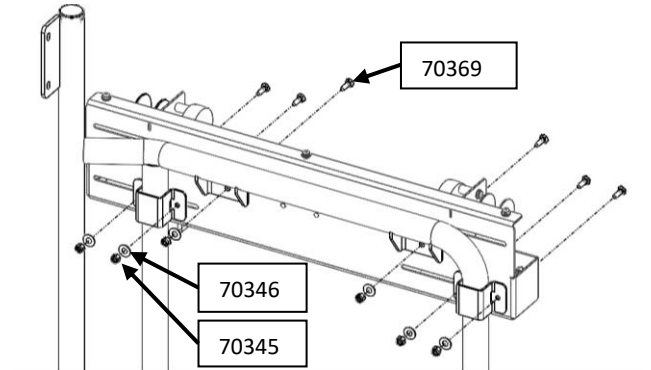
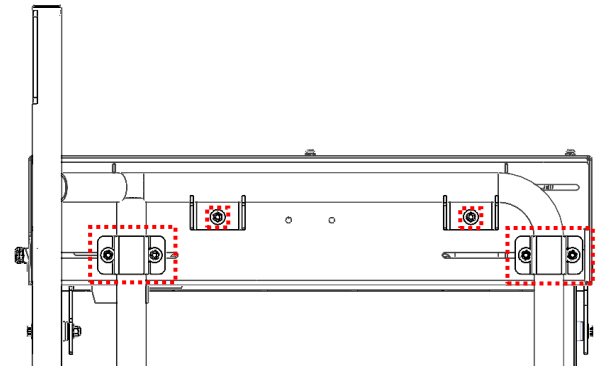

Figure 8: Power Box Enclosure Installation
Figure 9: Upper Mounting Locations
8. Align the Power Box Enclosure onto the Base Unit using the holes of the upper mounting tabs (Base Unit) to the small, centered slots in the back plate (Power Box Enclosure). Install 2X small mounting brackets (351566) around the vertical supports on the Base Unit. Insert 6x 5/16" carriage bolts (70369) through slots and mounting brackets and mounting tabs as shown in Figure 8 & Figure 9.